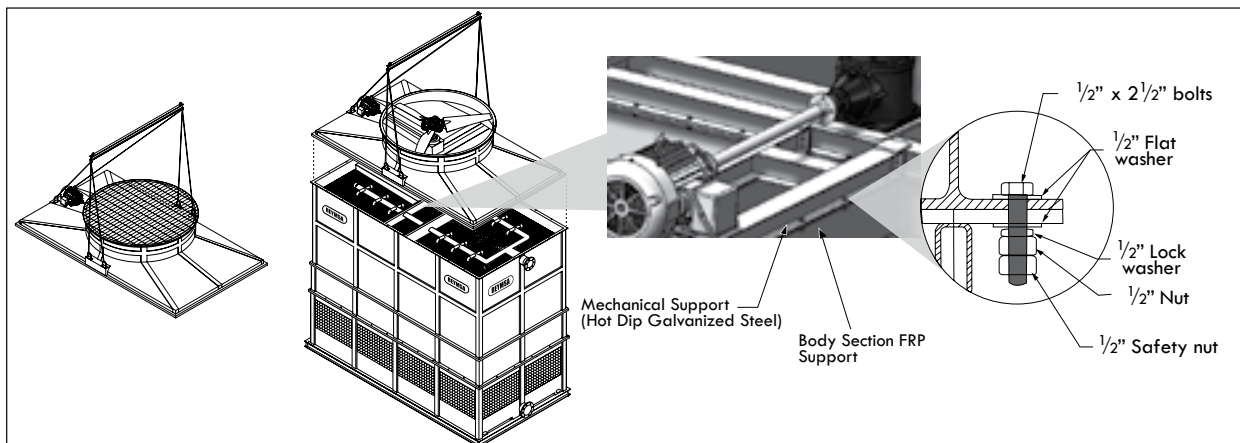

Figure A-52: Fan Deck installation of an RTG and RTGTC Tower with motor installed outside the airstream.
- W.** After installing the fan deck section, access to inside the fan deck section and bolt down the Galvanized Steel mechanical support to the Fiberglass (FRP) support (see Figure A-52). The Galvanized Steel mechanical support is built in a "T" shaped configuration and this base must be bolted to the Fiberglass (FRP) support in the upper section on which it sets. The bolts must be installed on the full perimeter of the "T" shaped mechanical support. Access to perform this assembly inside the tower is through the fan guard access door (except for 8' wide models which require removal of the fan guard).